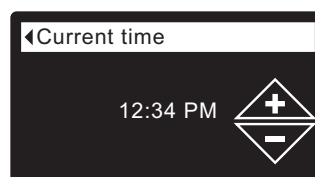

FIG. 45
5. Press the SELECT (O) button to display the Current time screen (See Figure 45).